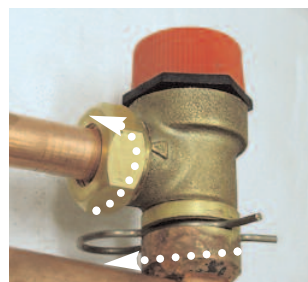

Fig. 18.64
2. Remove the clip securing the valve and unscrew the nut (see Fig. 18.64);